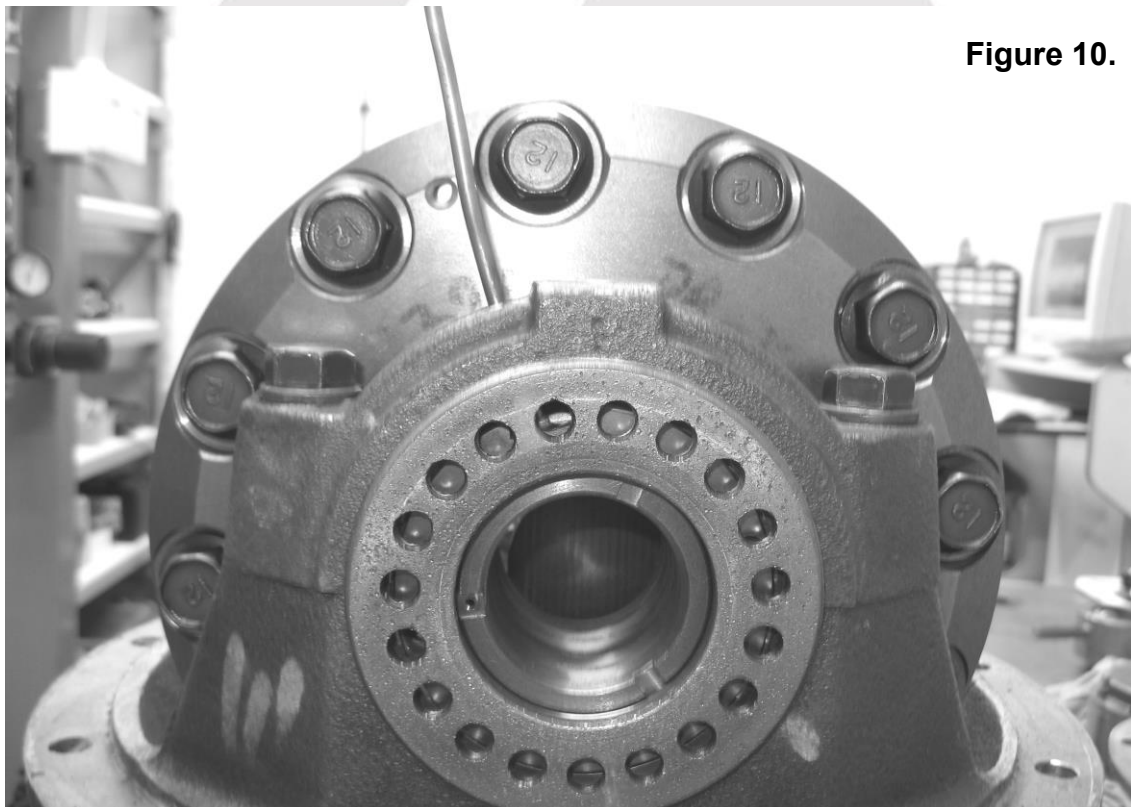

Figure 10.
- Using a soft jawed vice clamp, setup the bearing cap for drilling the hole at the angle shown (Fig. 10.).